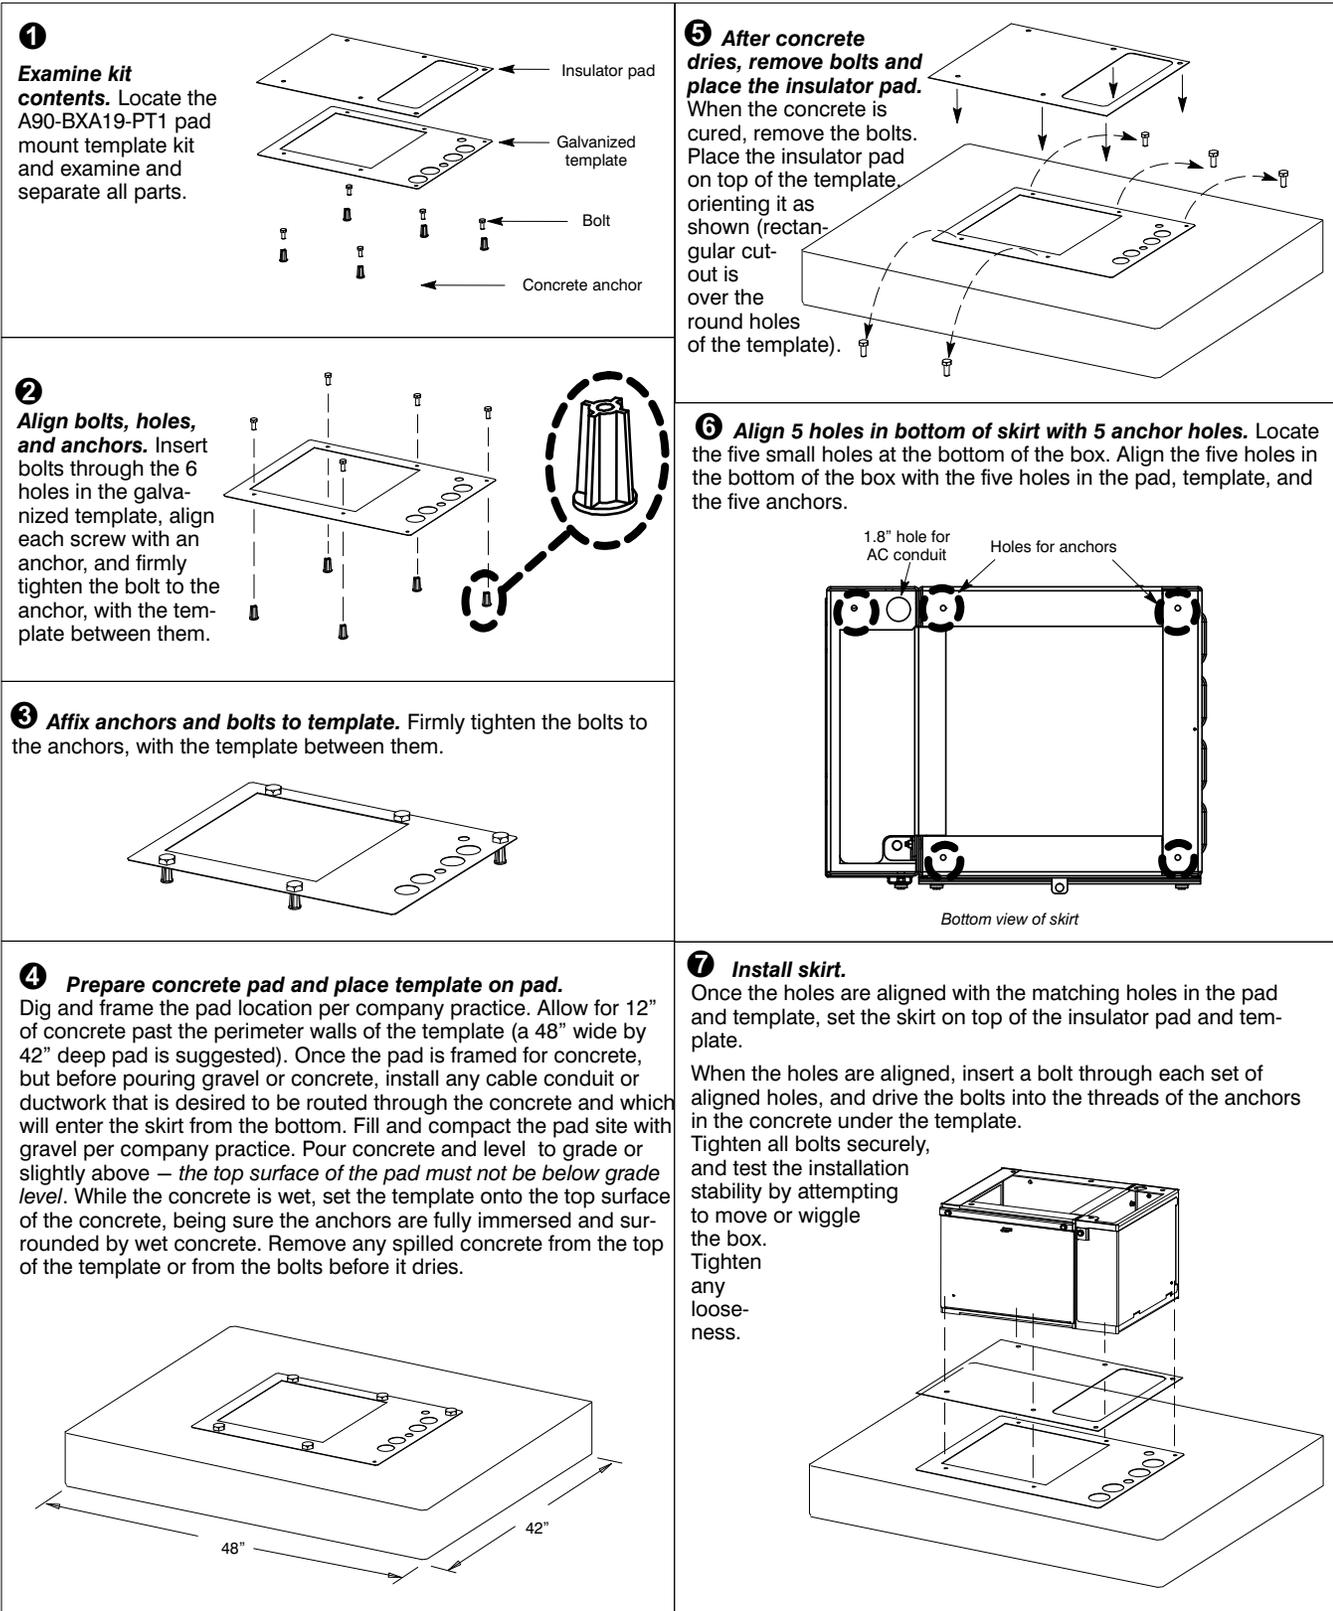

Figure 7. Concrete Pad Mounting
Follow the steps below to mount the Boxer skirt on a concrete pad. The skirt (or an optional skirt) is required when mounting the main Boxer cabinet on a concrete pad. Order and use the optional A90-BXA19-PT1 Pad Mount Template Kit for mounting on a concrete pad. Use the numbered steps below and the instructions in Figure 7 to mount the conjoined Boxer cabinet and skirt on a concrete pad. *These instructions are guidelines; you must design, dig, mix, pour, and install the concrete pad per local building codes and practices.* Note the following additional concerns for concrete pad installations:
2. **Prepare template.** Perform Steps 1-3 of Figure 7.
6. **Pour concrete, place the template, then set insulator pad and skirt on dry concrete.** Perform Steps 4-7 of Figure 7 to pour the concrete, to place the template on the wet concrete, and once the concrete dries, to place the insulator pad and conjoined Boxer cabinets on the dry cured concrete.